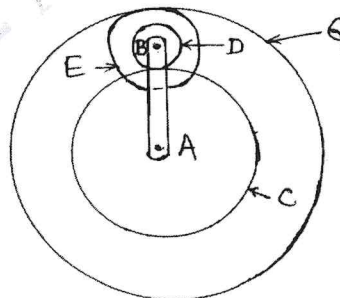

Fig.Q6(b)
- b. Two shafts 'A' and 'B' are co-axial. The gear 'C' (50 teeth) is rigidly mounted on shaft 'A'. The compound gear D-E gears with 'C' and an internal gear 'G'. 'D' has 20 teeth and gears with 'C' and 'E' has 35 teeth gears with an internal gear 'G'. The gear 'G' is fixed and is concentric with the shaft axis. The compound gear D-E is mounted on a pin which projects from an arm keyed to the shaft 'B' as shown in Fig.Q6(b). Find the number of teeth on internal gear 'G' assuming that all gears have the same module. If the shaft 'A' rotates at 110 rpm. Find the speed of shaft 'B'.